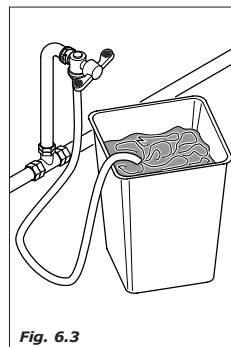

Fig. 6.3
- before making water connections, make some water flow out of the tap so as to eliminate possible traces of impurities and dirt (Fig.6.3)